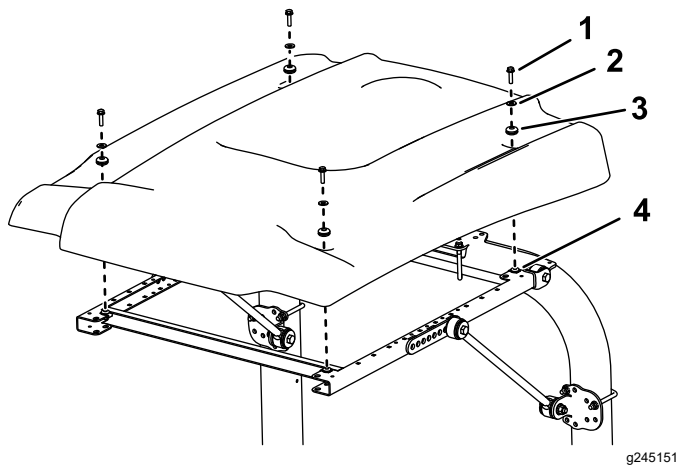

Figure 13
14. While aligning the mounting holes, position the sunshade onto the frame as shown in Figure 13.
- Loosely mount each corner of the sunshade to the frame with a flange-head bolt (5/16 x 1-1/4 inches), a small washer, and a grommet (Figure 13).